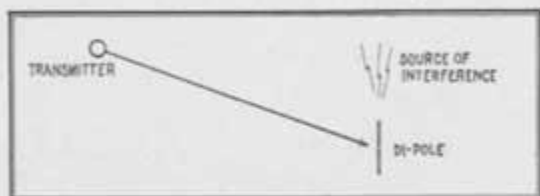

FIG. 69. AT A SLIGHT LOSS OF SIGNAL STRENGTH, INTERFERENCE MAY BE CUT DOWN BY POINTING THE TELECEPTOR AT THE SOURCE.
**Orientation:** With your antenna set up, you must swing or orient the horizontal rods until you get an adequate signal with minimum interference and ghosts. The line of maximum pick-up is at right angles to the di-pole rods. Pick-up is zero at the ends of the rods. Consequently, if you have a particular source of interference, as shown in Fig. 69, you may get the best results by pointing the rods at the interference source, even though the rods are not at exactly right angles to the line of reception.